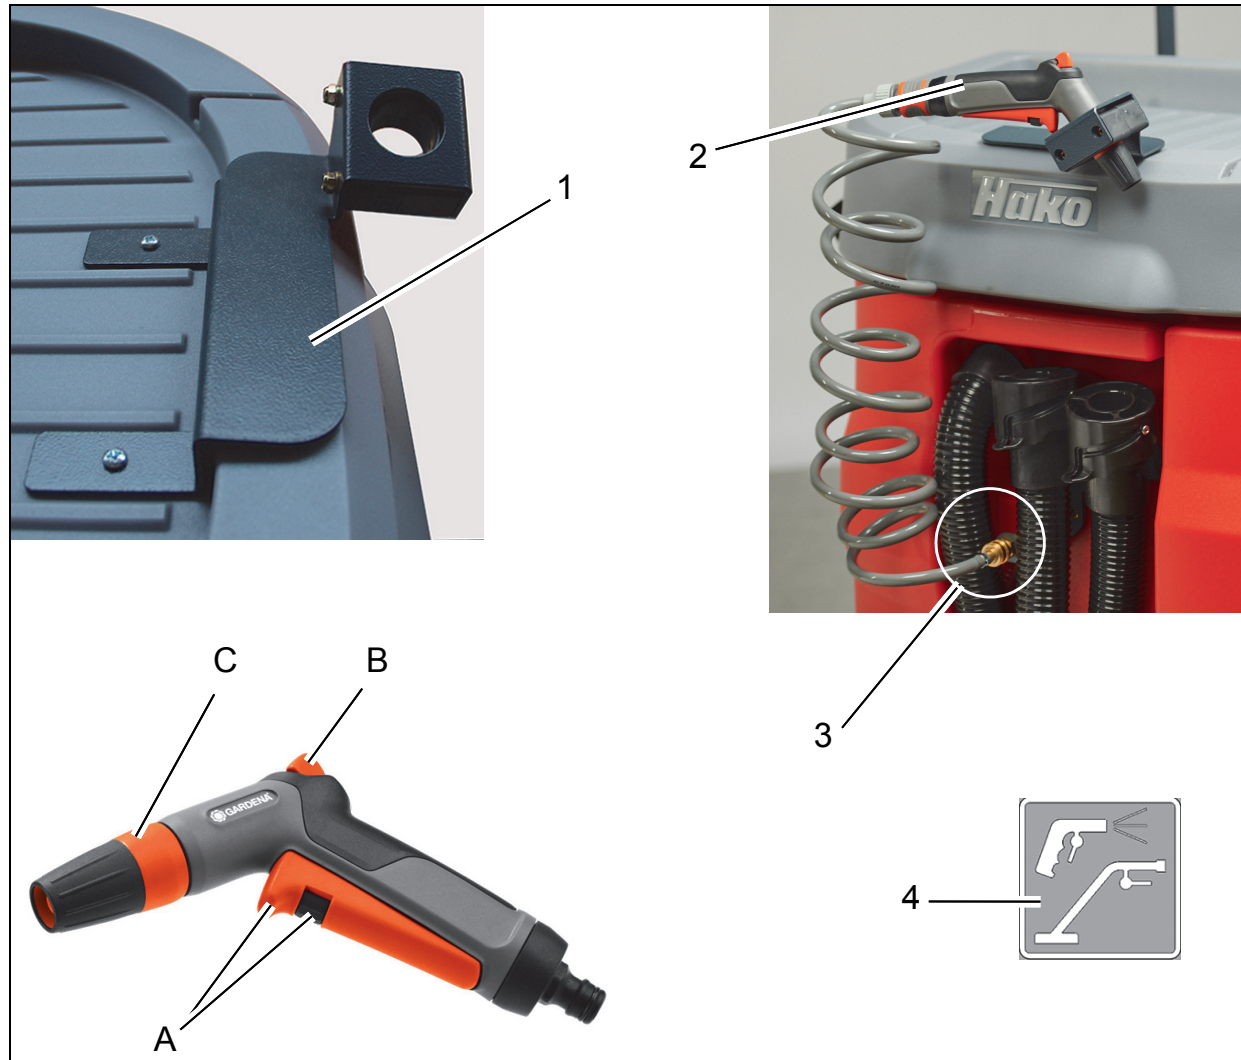

Fig. 2
1. Holder, pre-assembled (Fig. 2/1) fit to cover of machine with button head bolts M6x16 as shown in the illustration.
2. Insert spray nozzle (Fig. 2/2) into holder.
3. Connect hose of spray nozzle to water connection of machine (Fig. 2/3).
2. Use the tool operation button (Fig. 2/4) on the control panel to switch the water supply on and off.